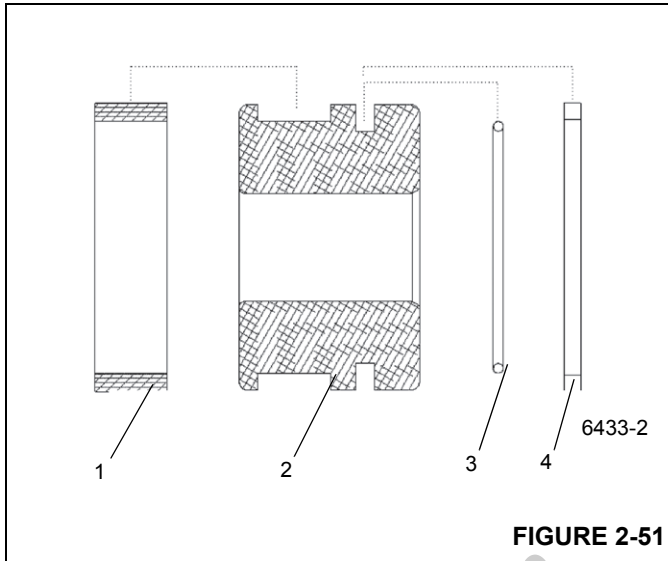

FIGURE 2-51
2. Install piston seals (Figure 2-51) as follows: